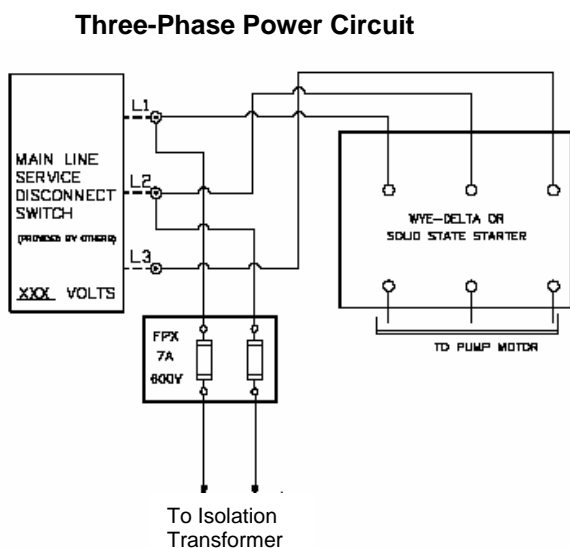

Figure 2-4
- C. The third circuit required common to all drive types is Main Line power. This power will either connect directly into a fuse block in the drive side of the controller or to the line side of a solid state starter. If a power transformer is used the secondary side will be wired to the fuse block in the drive side of the controller. [See Figure 2-4.]